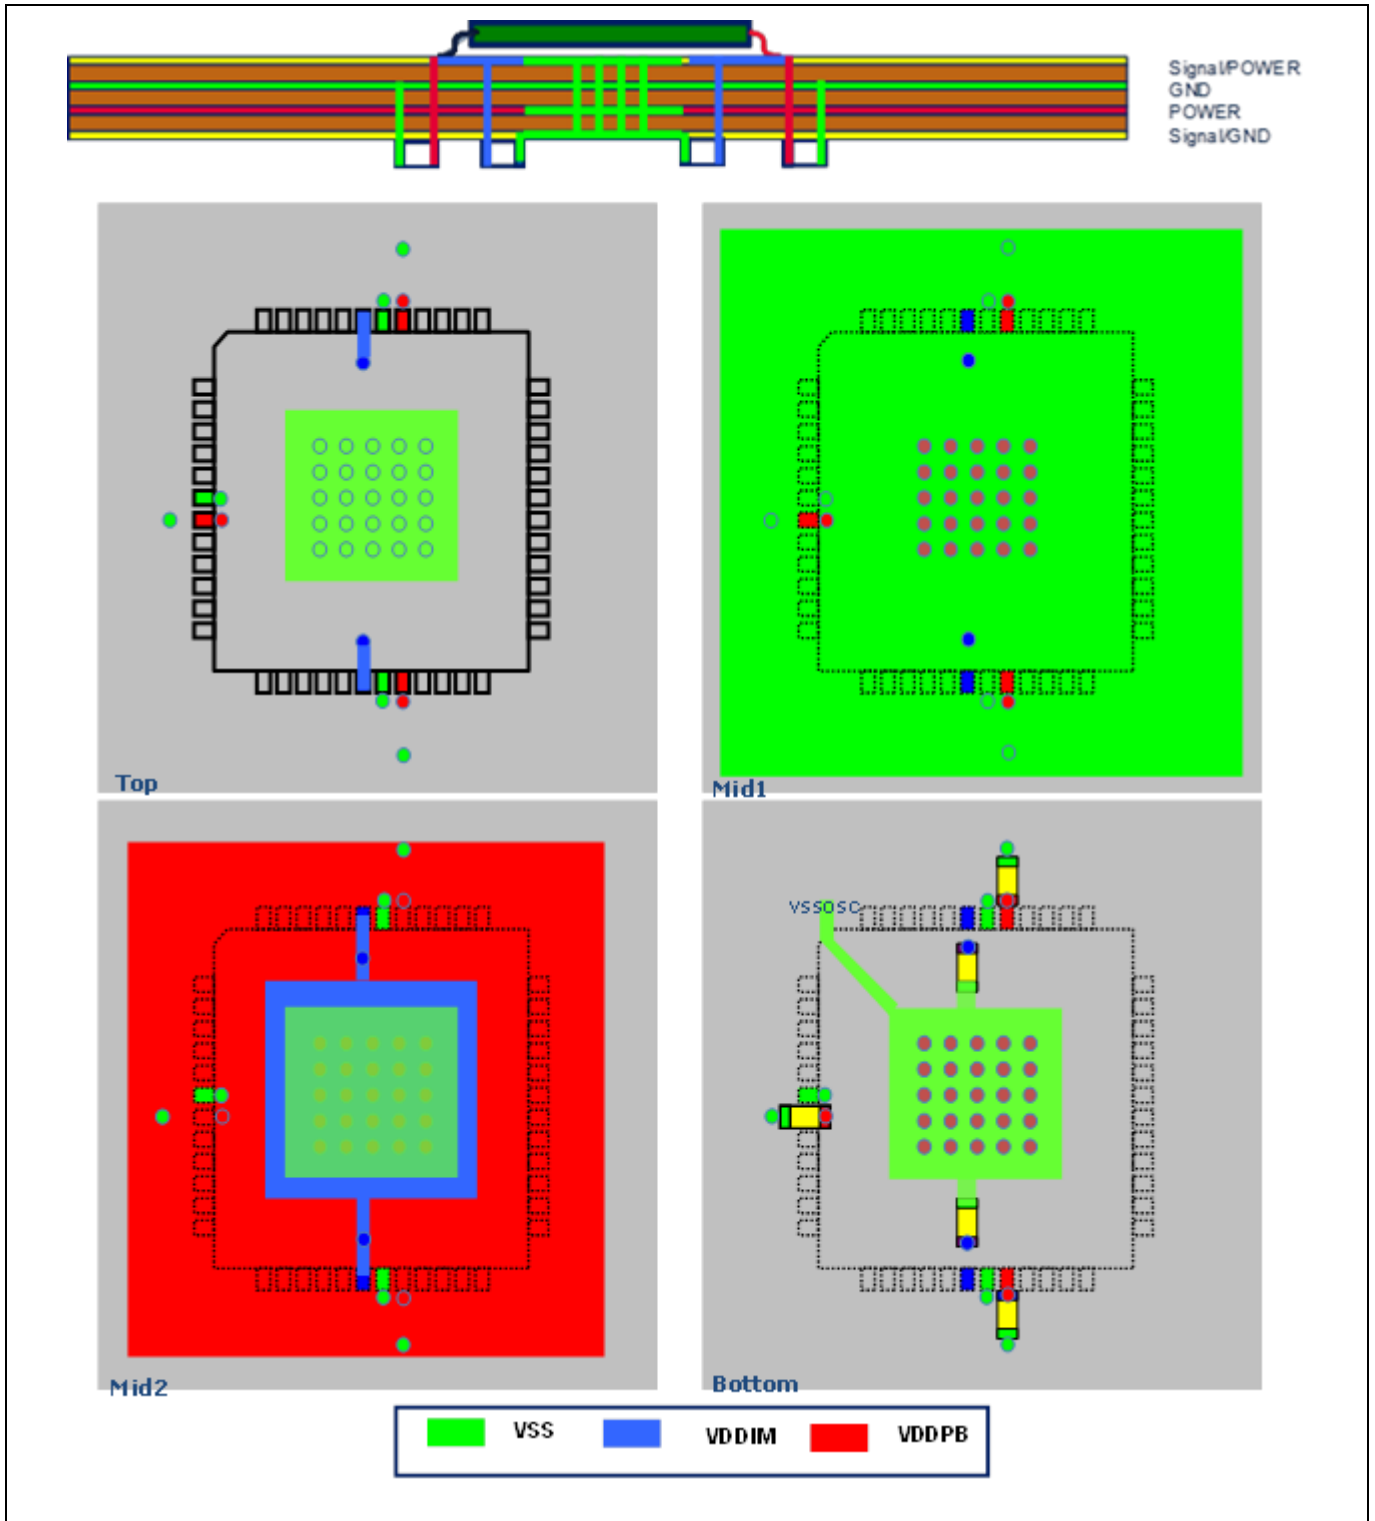

Figure 3 4-layer PCB layout example for decoupling of XC2000 (VQFN48-pin, double-sided placement)
- All supply domains of XC2000 & XE16x should be decoupled separately (see decoupling layout examples in Figures 3, 4, and 5).
A power-plane/grounding concept example for the XC2000 & XE166 microcontrollers can be seen in Figures 3, 4 and 5.